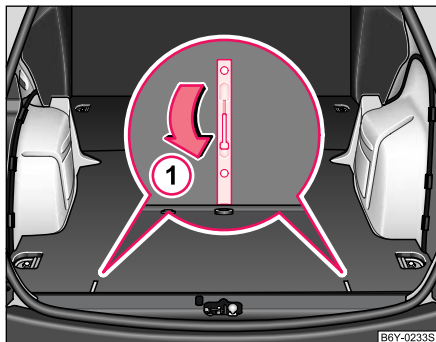

Fig. 172 Securing the loading area floor
- First unlock the floor by folding back the lever in position ① ⇒ fig. 172.